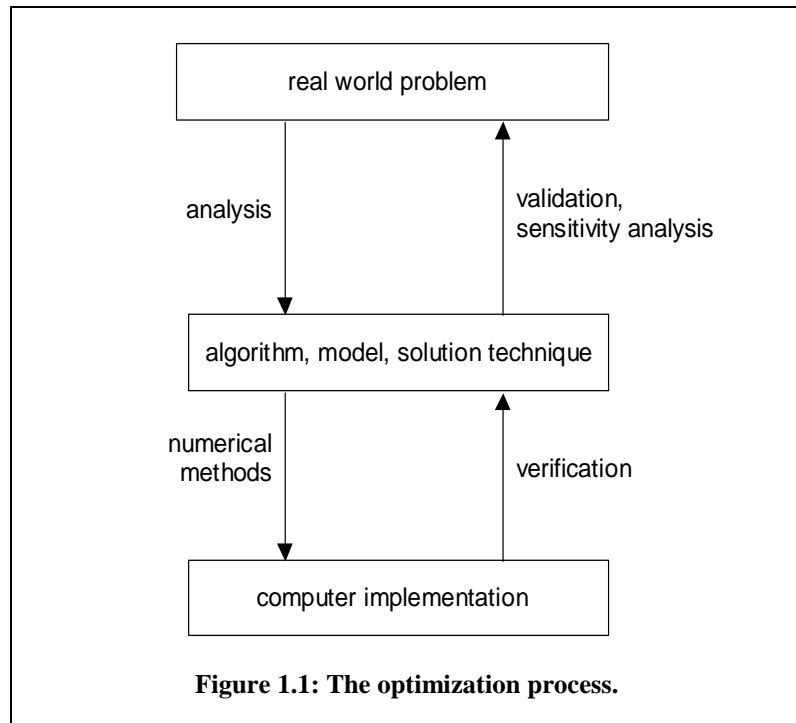

Figure 1.1: The optimization process.
The process of optimization is shown schematically in Figure 1.1. You typically begin with a real problem, full of details and complexities, some relevant and some not. From this you extract the essential elements to create a model, and choose an algorithm or solution technique to apply to it. In practical problems, the computer will carry out the necessary calculations.
The arrows in Figure 1.1 indicate the normal process of the optimization cycle. Moving from the *real world problem* to the *algorithm, model, or solution technique* is known as **analysis**. It is here that the main work of abstracting away irrelevant details and focusing on the important elements takes place. In many cases, the process of analysis is extremely valuable by itself, even without carrying out any subsequent optimization. Just laying bare the
This book concentrates on the top two boxes in Figure 1.1, and on the processes of moving between them. You will be exposed to some of the details of the algorithms and their computer implementations so that you have enough understanding to deal with unexpected outcomes. For success in practical optimization, you will need three things:
- practice in the process of analyzing and solving problems (as in Figure 1.1).